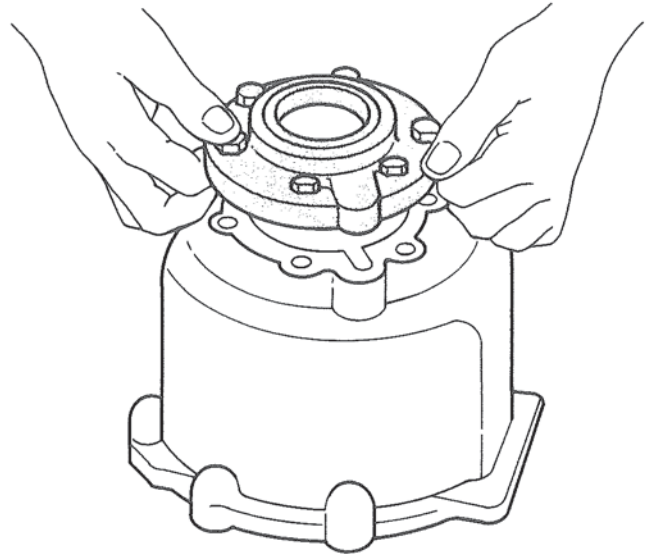

Figure 6. Removing Bearing Retainer.
4. Remove the six (6) hex head bolts and lockwashers then remove the bearing retainer. Figure 6.